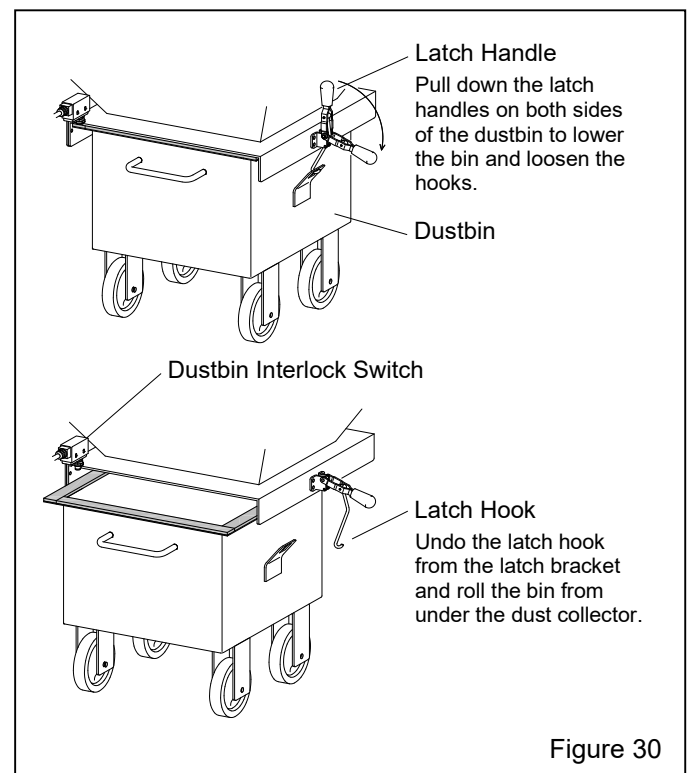

Figure 30
6.2.4 Inspect dustbin – Figure 30
6.2.4.2 Turn off the exhauster and unlatch the bin from the dust collector, as shown in Figure 30.